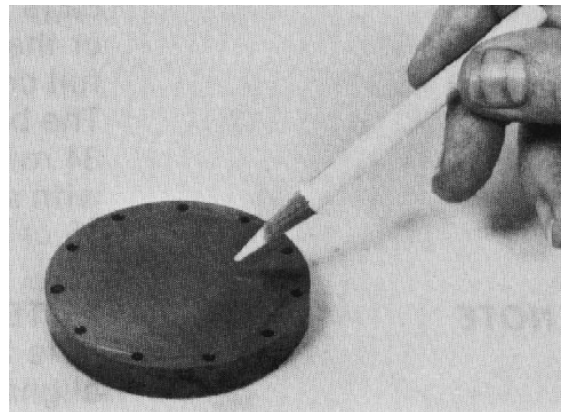

Figure 52
38. The rotor side of the drive plate (Fig. 52) should show the “normal” spiral pattern due to rotor movement.